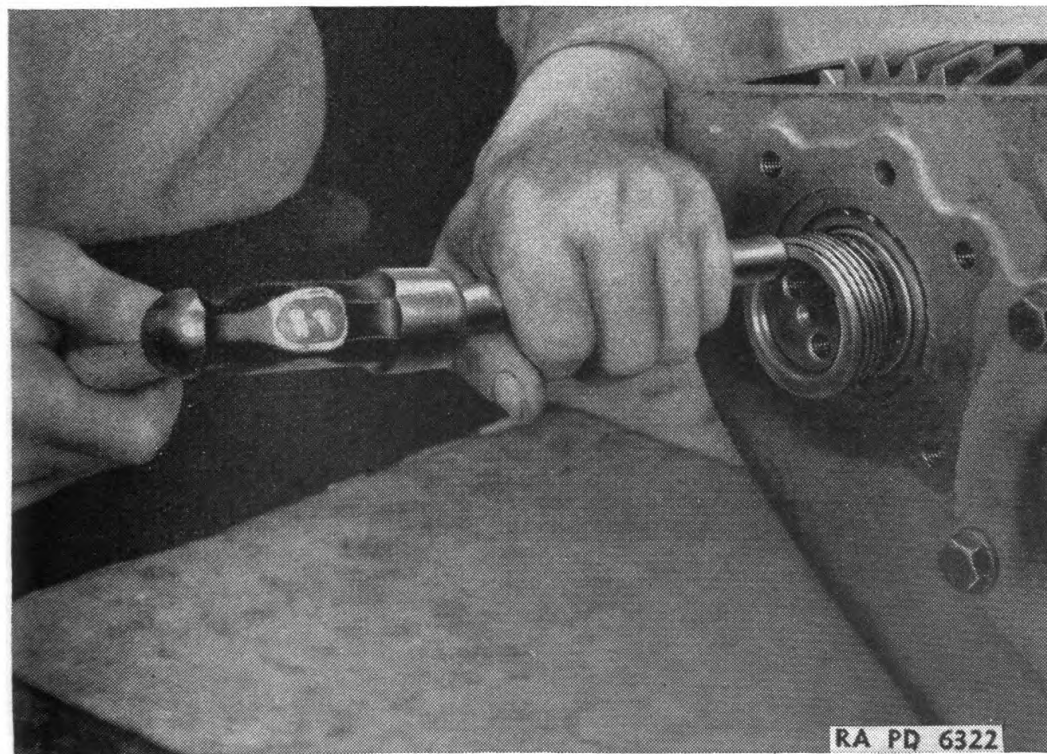

FIGURE 140.—Speedometer drive gear replacement.
(17) Replace speedometer drive gear—brass drift, hammer,  $\frac{9}{16}$ -inch socket wrench, pliers. Replace Woodruff key and drive speedometer drive gear on rear end of front-drive shaft (fig. 140). Replace retaining washer, two cap screws, and locking wire.
(18) Assemble front-drive shaft rear bearing cap—brass drift, hammer,  $\frac{7}{8}$ -inch open end wrench. Replace bushing in cap and replace speedometer driven gear and sleeve.